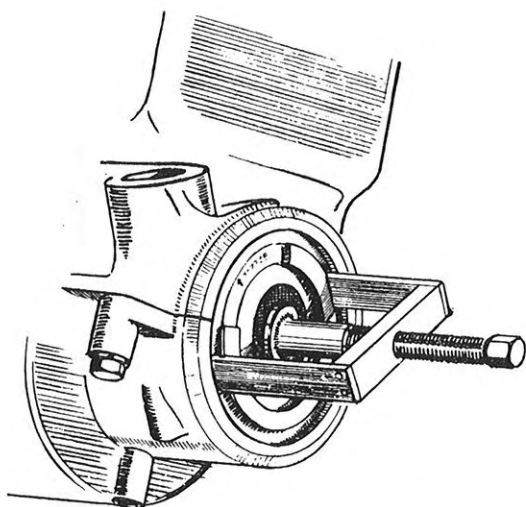

Fig. 8. Removal of outer cover from distributor gear case by means of tool Saab 93-104
8. Remove outer cover with seal ring and O-ring. Use pulley 93-104 if necessary, see Fig. 8.